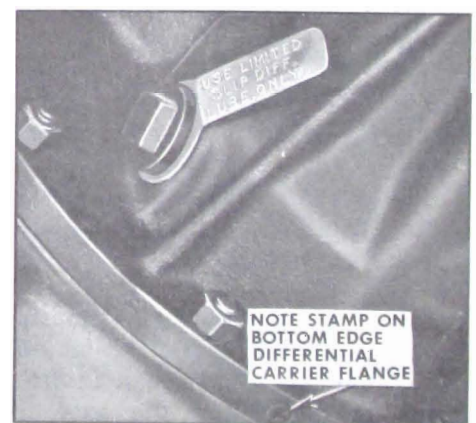

Figure 1-9—Identification of Positive Traction Differential Axle
7. Positive Traction Differential Rear Axle. Identified by embossed tag on filler plug reading, "Use limited slip differential lube only". Check lubrication level after allowing time for lubricant to settle. Clean the surrounding area before removing filler plug. Level should be maintained at filler plug opening to 1/4" below by adding lubricant conforming to Buick specification #723 only, as specified in paragraph 1-9. See Figure 1-9.